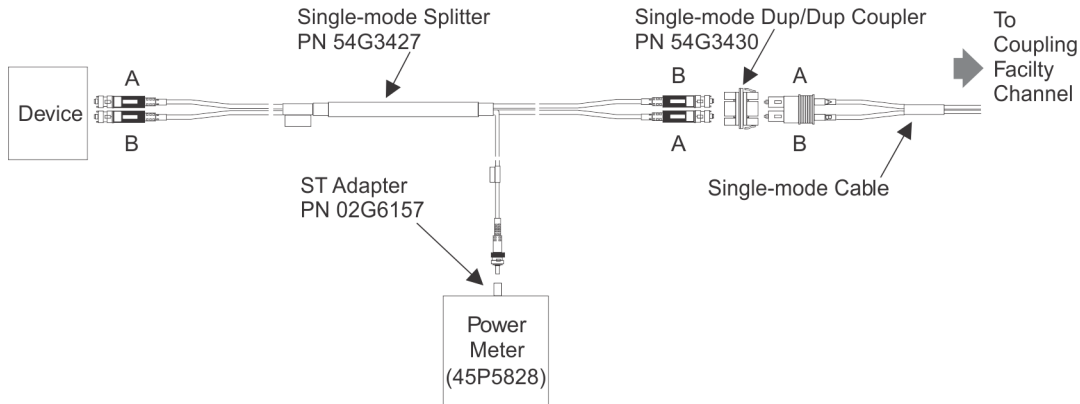
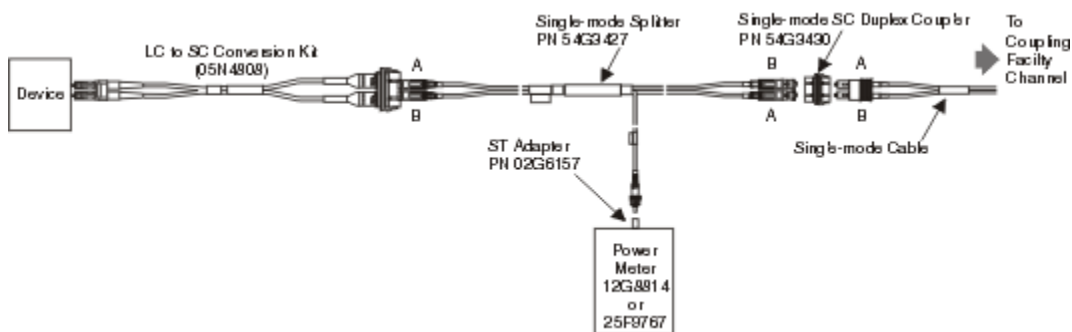

Figure 85. Measuring transmit-out power for a single-mode coupling link
Figure 86. Measuring transmit-out power for an ISC3 operating at compatibility mode to ISC legacy link (ISC3 to ISC legacy)
Assemble the test equipment (using Figure 85 on page 82 or Figure 86 on page 82) as follows:
2. Attach the splitter connector marked "DEVICE TO BE MEASURED" to the device, and attach the unmarked splitter connector to the link using the SC duplex coupler (part number 54G3421). For ISC3, connect the LC to SC conversion kit, part number 05N4808, between the splitter and the device (see Figure 86 on page 82). The splitter is now positioned to measure the transmitter output power of the device.